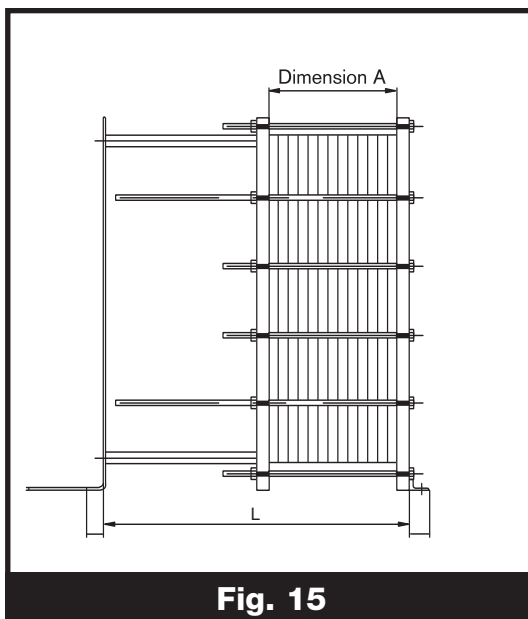

Fig. 15
- Tightening is complete when the distance between the inside faces of both frame plates approaches the "A" distance as shown on the contract drawing. See Fig. 15.